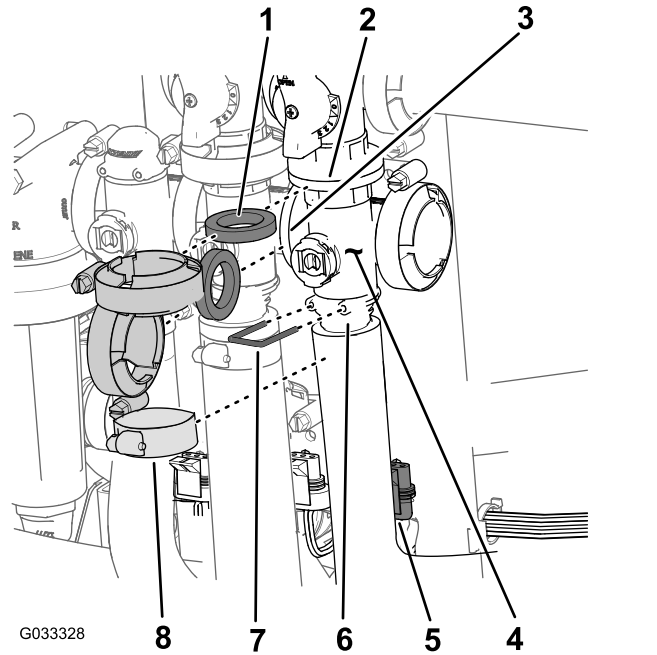

Figure 71
- Remove the clamps and gaskets that secure the manifold for the master-section valve (Figure 71) to the master-section-bypass valve, agitation valve, and master-section-manifold valve (at the end of the hose for the flow meter).
- Remove the retainer that secures the outlet fitting to the manifold for the master-section valve (Figure 71).